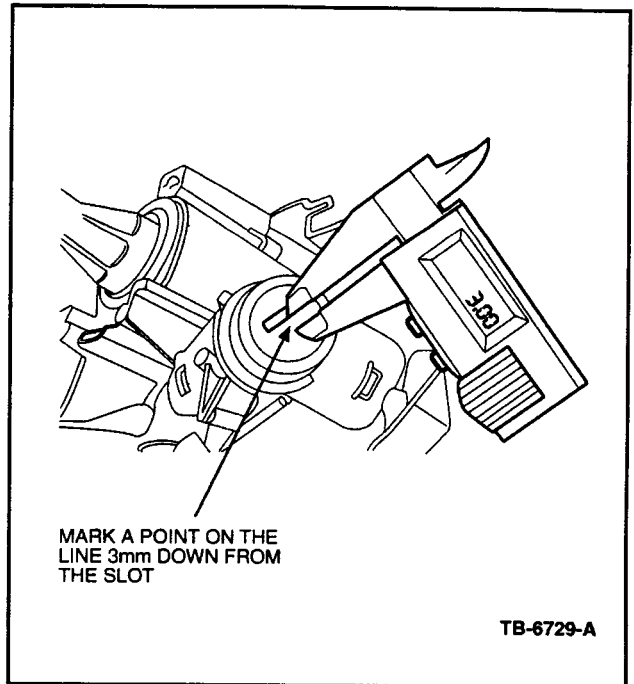

Figure 3 - Article 02-18-2
4. Mark a point on that line 3mm down from the slot. This point will be just beyond the center of the lock face (Figure 3).